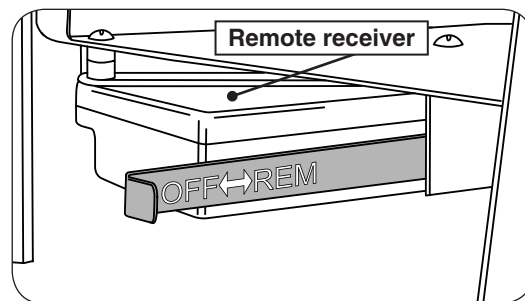

Fig. 17-2
2. Locate the OFF/REMOTE slide actuator on the left rear of the burner. Slide the actuator to the right / **REMOTE** position. See Fig. 17-2.